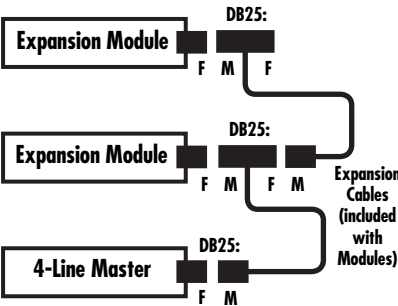

Figure 5-1. Connecting Expansion Modules to your Manager system.
2. Use the included expansion cable to connect the Module to your Manager system as shown in Figure 5-1 on the next page. This cable is a ribbon cable with a DB25 male connector at one end and both a DB25 male and a DB25 female connector at the other end. Attach the DB25 male on the dual-connector end of the cable to the DB25 female expansion port on the back of the Module. Then attach the DB25 male on the other end of the cable to the expansion port on the Master (if this is the first Module in your stack) or to the DB25 female connector on the cable attached to the next Module's expansion port.